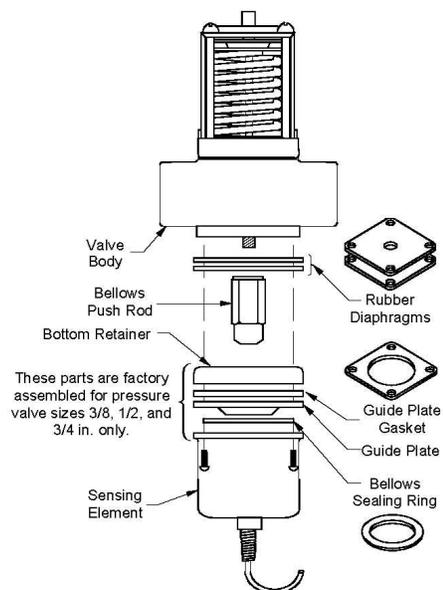

Figure 5: Guide Plate Gasket and Bellows Sealing Ring Identifications
9. Replace the diaphragms between the sensing element and valve body (Figure 5). Use two diaphragms on 3/8 in., 1/2 in., and 3/4 in. valves and three diaphragms on 1 in. and larger valves.
10. On 1 in. And larger pressure valves and all temperature valves, replace the guide plate gasket and bellows sealing ring (Figure 5).